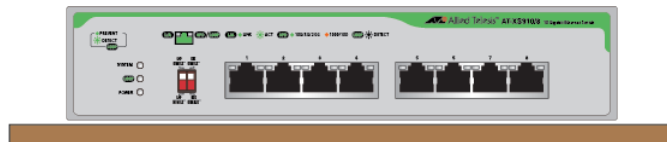

Figure 10. Correct Table or Desktop Orientation
- ❑ The bottom of the switch touching the table or desktop is only the connect orientation. See Figure 10.